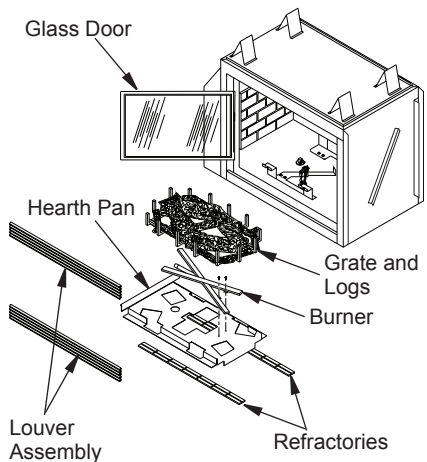

Figure 53 - Burner Removal
2. Carefully remove log set intact and set aside (see Figure 53).